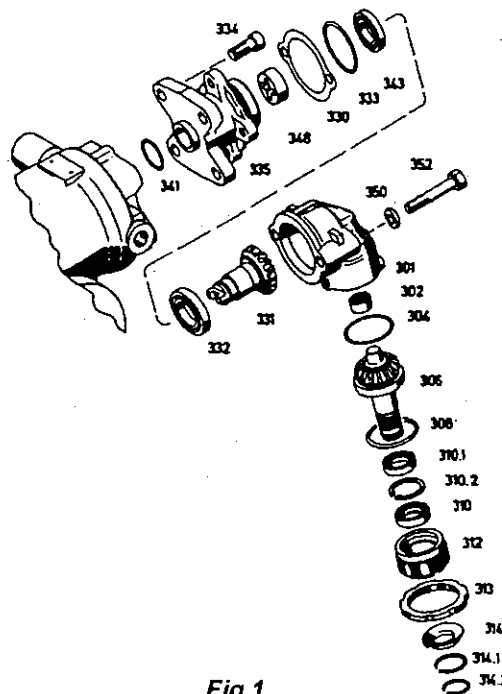

Fig.1
Unscrew cap screws / hexagon screws (352) with washers (350) (*Fig.1*).